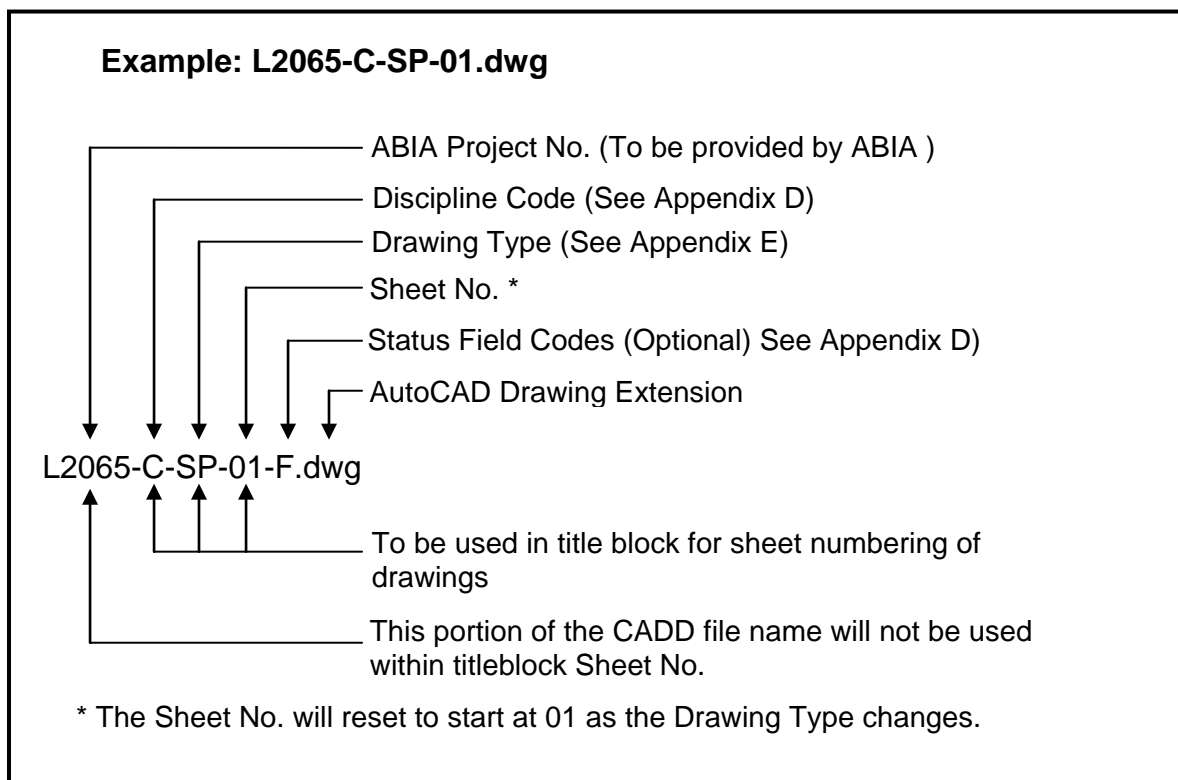

Figure 1: File Naming Convention
- C) See Section 1.3.1 Figure 1 for explanation of file naming & sheet numbering.